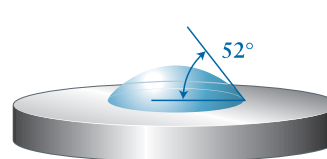

Figure 1
- Improves surface wettability3 (Figures 1 & 2)